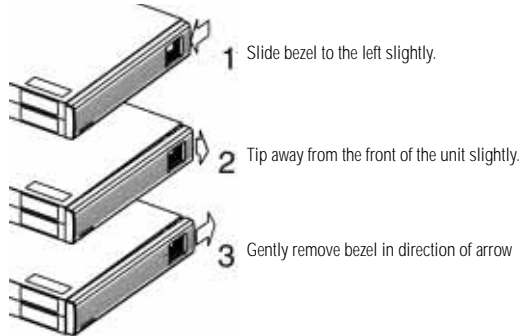

Fig. 4: Removing the UPS Front Bezel
1. Slide the front bezel to the left (bottom) and then pull away from the UPS to remove (fig. 4)
7. Replace the front bezel by reversing all three steps in figure 4.